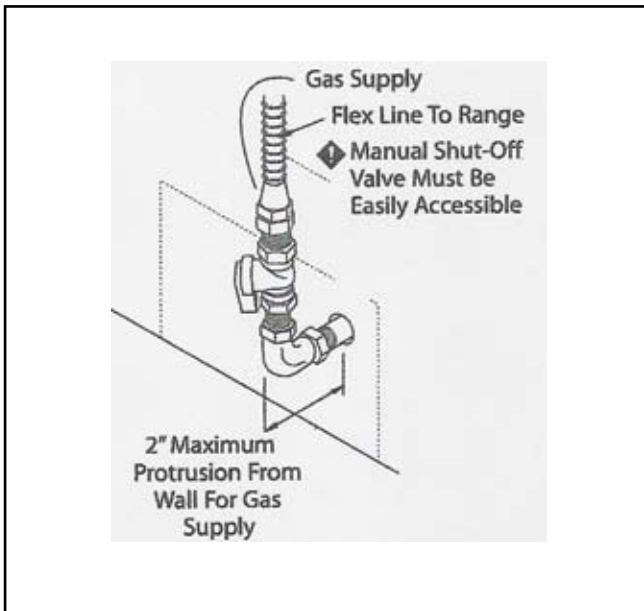

Fig. 7
- a) A manual shut off valve must be installed external to the range in an accessible location from the front for shutting off the gas supply when required (**Fig. 7**).